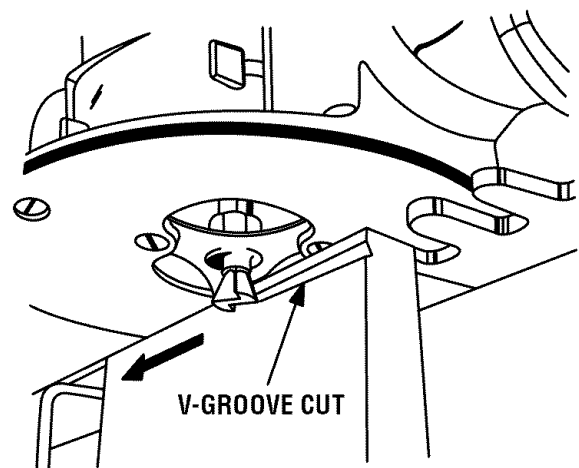

Fig. 25
- Place the router so that the subbase is resting flat on the dovetail template. Make sure the cutter is not making contact with the edge of board (A), then turn your router on and let the motor build to its full speed.
- Make a straight cut from **RIGHT TO LEFT** across board (A). See Figure 25. This shallow V-groove cut is made to prevent chipping of the wood when the router is moved in and out of the fingers of your dovetail template.